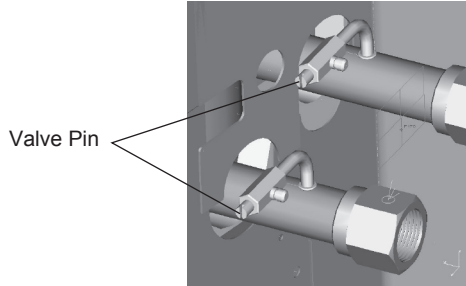

Fig 32
- (1) Do not turn on the power switch before all installation is finished.
- (2) Connect wires correctly and firmly.
- (3) Remove all dust.
- (4) Using the tool screws down the valve pin, as follow Fig 32.